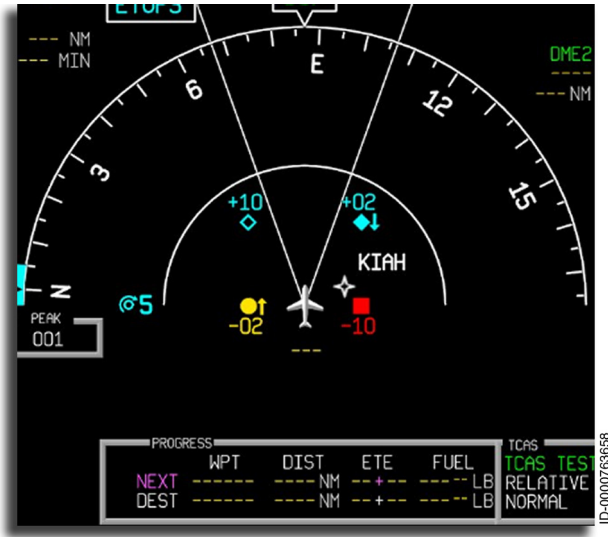

Figure 19-4
- **4R TEST** – Pushing 4R initiates the TCAS self-test. The TCAS self-test can only be initiated when the aircraft is on the ground. Pushing the TCAS TEST button starts the test cycle and displays the TCAS test screen. Figure 19-4 shows the MFD TCAS test annunciations when CDTI is not enabled.